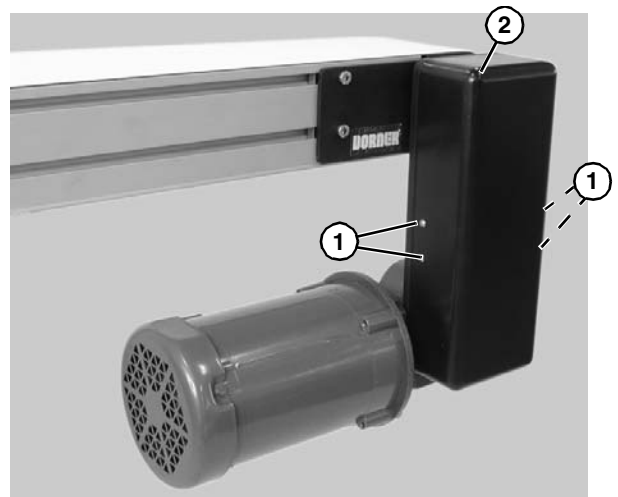

Figure 60
- Remove four (4) screws (**Figure 60, item 1**) and remove cover (**Figure 60, item 2**).